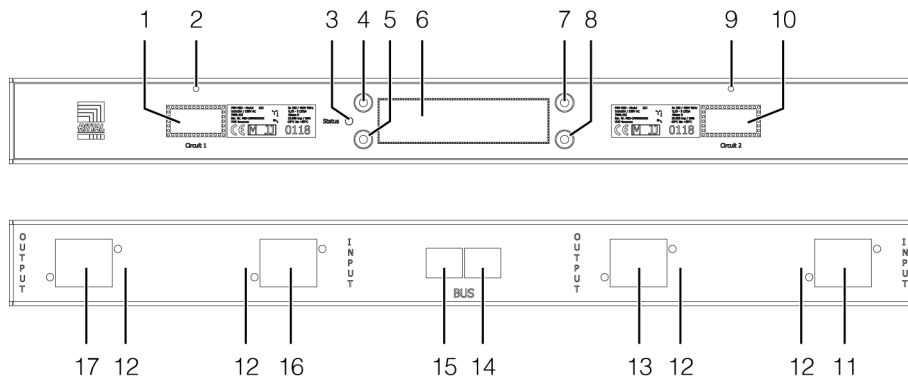

Fig. 4: Operating and display elements
After making the connection, the status screen and the MID displays of infeeds 1 and 2 show briefly the software version of the PSM MID measuring module on the main display of the measuring module (fig. 4, item 6) The unit is operational after a short delay.
A multi-LED for the status display (fig. 4, item 3) is located on the front of the PSM MID measuring module to the left of the centre main display. Another LED for each consumer display is located in the front above the MID displays (fig. 4, item 2 and item 9). Further LEDs are located at the rear on the CAN bus connection (fig. 4, item 14 and item 15). After connection of the PSM MID measuring module, all LEDs flash briefly once.
The energy is billed using the value  $\Sigma$ kWh displayed on the MID display of the associated infeed (fig. 4, item 1 and item 10).
The displays on the centre main display of the PSM MID measuring module (fig. 4, item 6) and on the web site of a connected CMC III Processing Unit may be used only for informative purposes but not for billing purposes.
- For switched-off main display, press the "Return" key (fig. 4, item 5).
- Use the "Down" key on the main screen to select the **Circuit 1** or **Circuit 2** menu (fig. 4, item 8).
- Keep the "Esc" key pressed (fig. 4, item 4).
- Also press the "Down" key for approx. 3 seconds (fig. 4, item 8).
- Use the "Down" key to select the "Yes" row and press the "Return" key to confirm the selection (fig. 4, item 5).